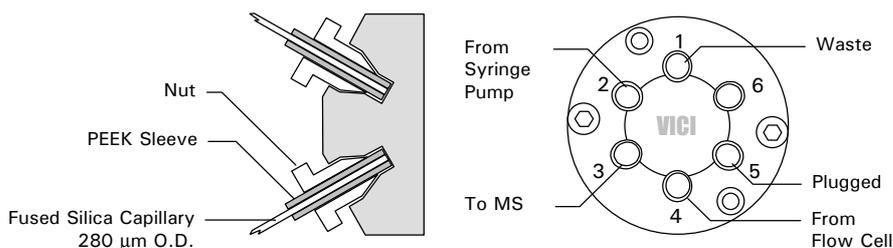

FIGURE 2-6 Connecting the Micro Valve
To connect the micro valve (FIGURE 2-6):
- Connect the 280 μm O.D. fused silica capillary of the flow cell outlet to port 4. Use the PEEK sleeve P/N 160492 (FIGURE 2-6).
- e) Connect port 3 of the micro valve to the mass spectrometer using appropriate sleeves. Use P/N 160492 to connect a 280 μm O.D. fused silica capillary to the micro valve (FIGURE 2-6) and use a Teflon connector to connect to the MS.